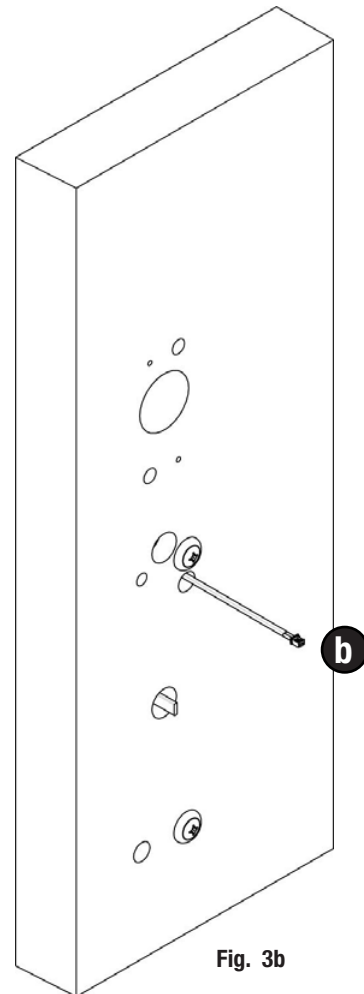

Fig. 3b
- e. Fasten trim assembly to door using (2) 1/4-20 oval head screws and (2) finish washers (Fig. 3b).